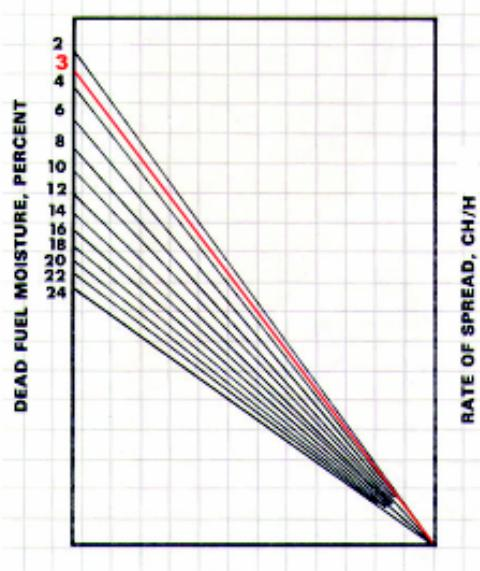

Figure 9.9—Nomogram—upper left quadrant.
Step 3. Using the upper left quadrant of the nomogram, see figure 9.9.